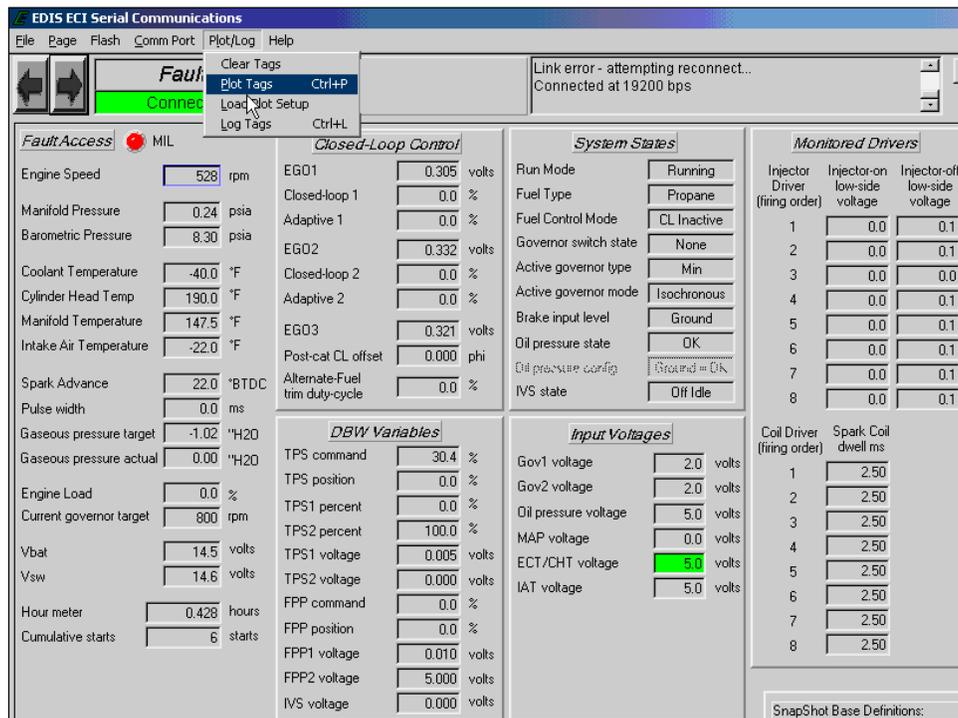

Figure 6
Once the variables have been tagged as highlighted by the green color fill, select the "Plot/Log" function in the top menu bar as shown below in figure 6.
Another data capture function incorporated in the software is the DST logger. This tool serves as a PC data logger for any variable available in the ECM through the interface software. Figure 9 shows the interface display for configuring the DST Log. The interface allows the user to create the filename, set the sample rate for acquisition, set the time interval for sampling, and display the progress of acquisition. A maximum of twenty (20) variables may be tagged for the log. The amount of data stored is only limited by available PC RAM. The resulting text file may then be viewed by any standard Windows text editor/reader program. To create a log file select the “Log Tags” in the drop down menu as shown in figure 6.